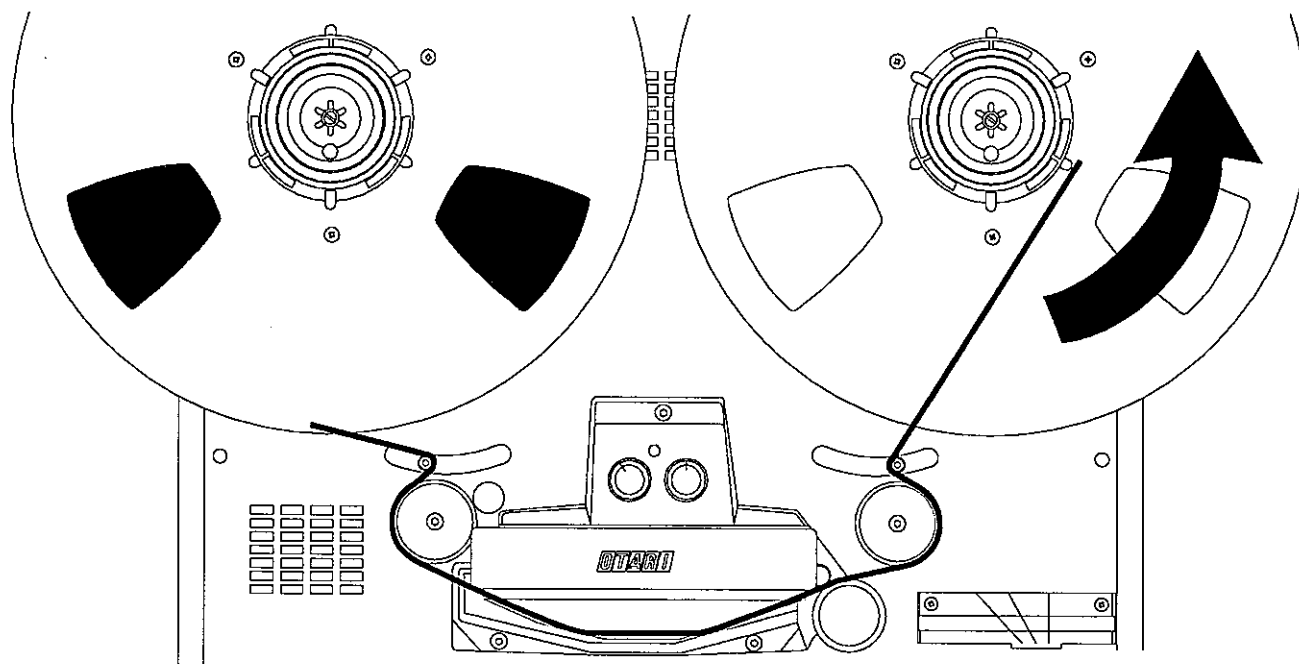

Figure 3-4
3. Thread the tape from the Supply Reel to the Take-up Reel as shown in **Figure 3-4** and turn the Take-up Reel clockwise to remove the slack from the tape path.